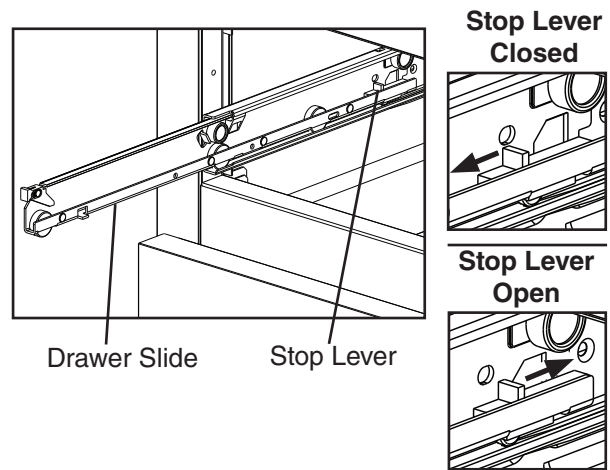

Fig. 4
- **To remove a drawer slide (center slide containing rollers):** Open the stop levers (one on each side) by sliding them to the rear. See Fig. 4. Lift up on the drawer slide slightly, then pull to disengage the drawer slide. **WARNING! Be sure to close the stop levers when reinstalling the drawer.** Drawer slides do not require lubrication, but drawer slides should be kept clean and free of food.